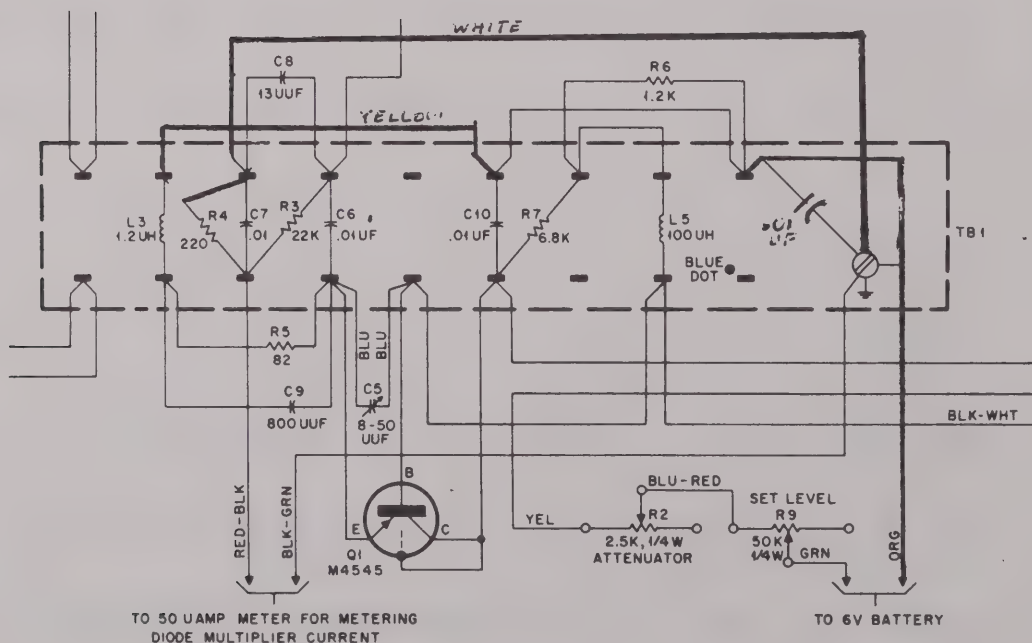

Figure 4. TB1 Diagram After Modification
4.3.1 Obtain the following parts and refer to Figure 4.